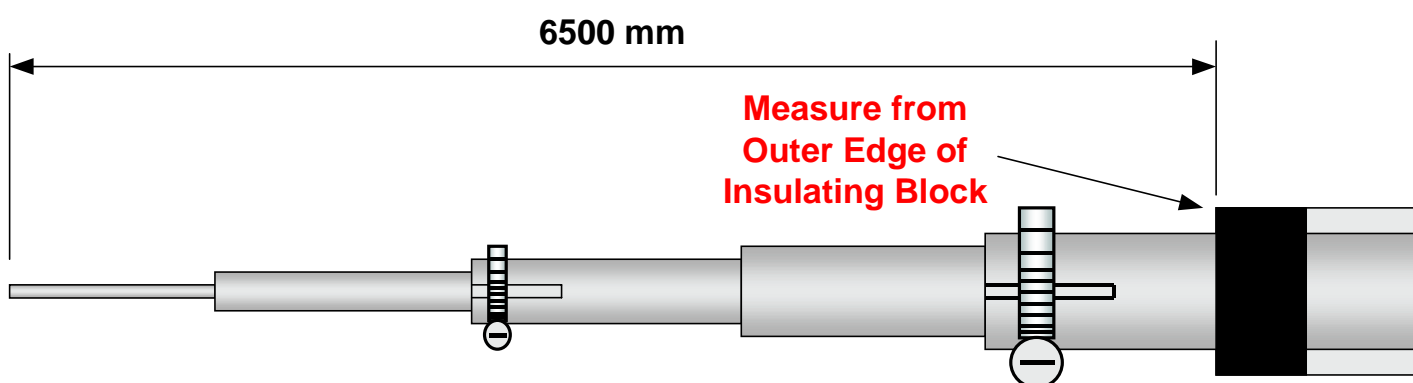

Figure 4 – Dimensions for Tuning
Insert the final section. Carefully measure the length of each side of the antenna and adjust until the total length from the outermost insulating block to the tip of the antenna is 7.1m. Refer to Figure 4 – Dimensions for Tuning for guidance. Check that each hose clamp has been securely tightened.
Perform a final check of the lengths of the elements shown in Figure 4 – Dimensions for Tuning. Note that the dimensions stated in this document are for an installation height of 10m or greater. If the antenna is mounted less than ten (10)m high then the dimensions shown will have to be reduced. This antenna is not designed to be installed at heights less than 10m.
7.0 – 7.25 MHz. Refer to the dimensions given in Figure 4 – Dimensions for Tuning.
element will remain relatively unchanged. The length given in Figure 4 – Dimensions for Tuning is suitable for mounting the antenna in the clear at least 15m above ground.